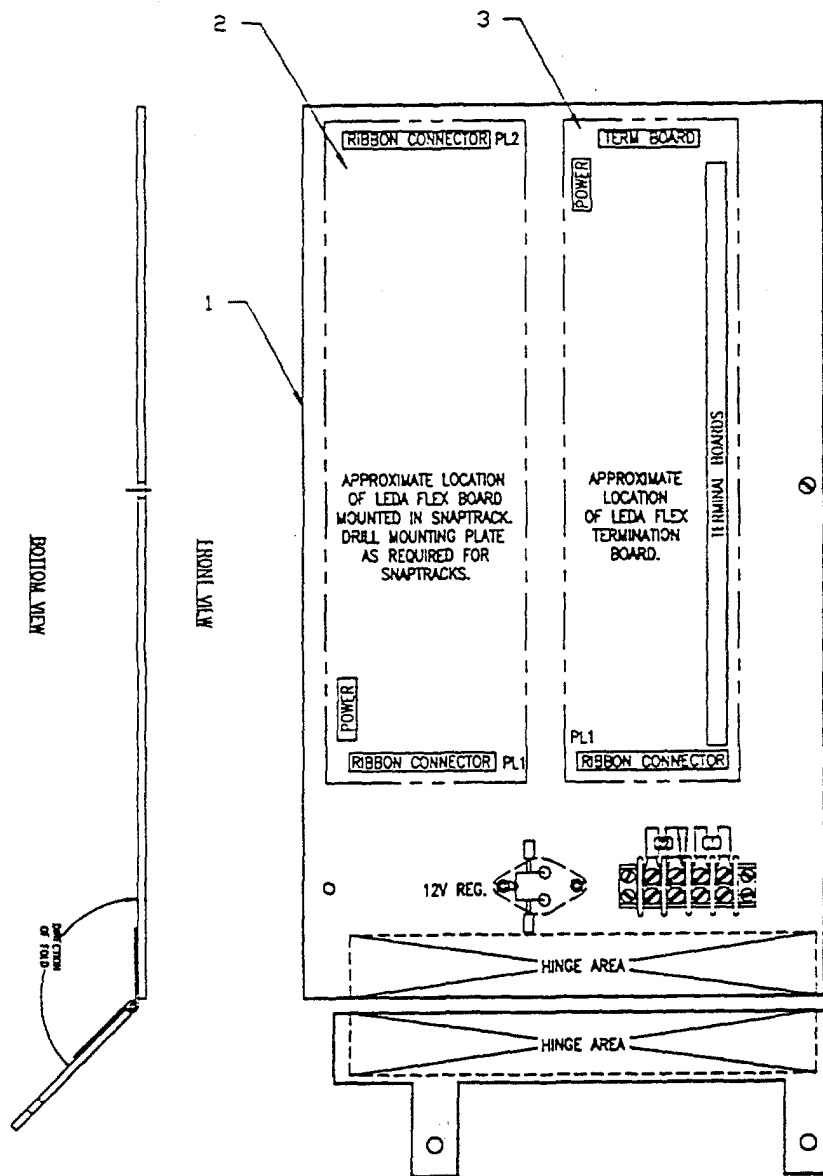

Figure 1-16. J-SIIDS to Leda Interface
I. J-SIIDS Leda Interface (See Figure 1-16)